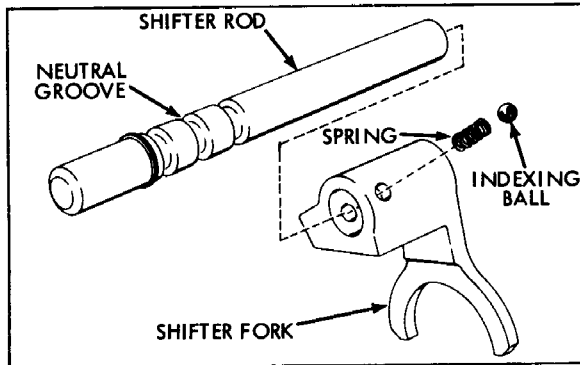

Figure 3-4
1. Assemble the shifter forks to the shifter rods as illustrated in Figure 3-4. The shifter forks are interchangeable.
2. Refer to Figure 3-4. Slide the shifter fork onto the shifter rod until it comes to the hole with the indexing ball and spring. With a flat blade screw driver press the indexing ball into the hole and move the shifting fork completely onto the shifter rod.